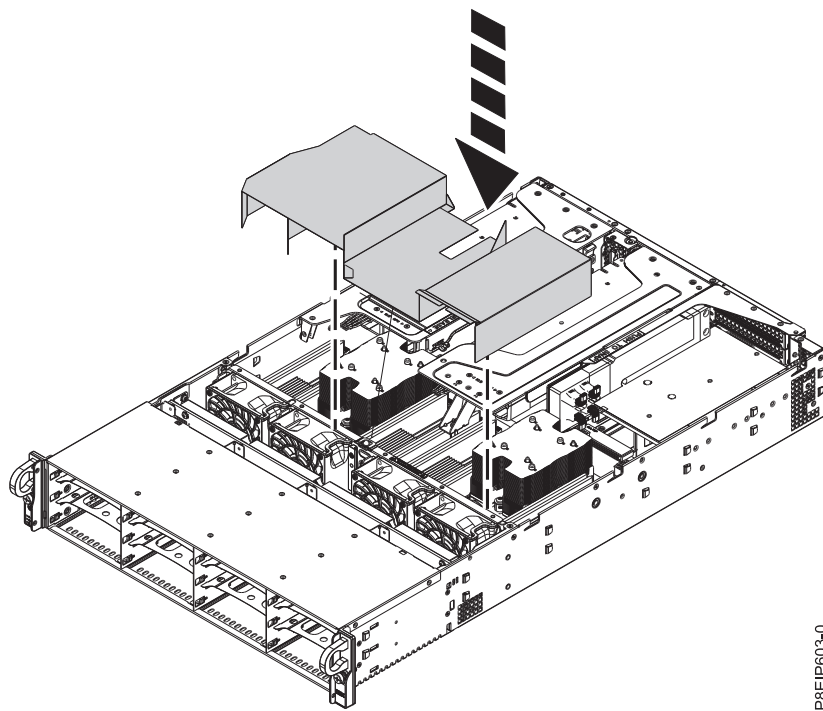

Figure 86. Installing the processor air baffle
7. Install the processor air baffle. Insert the edge of the baffle into the fan support as shown in Figure 86. Then, carefully press the baffle down into place.